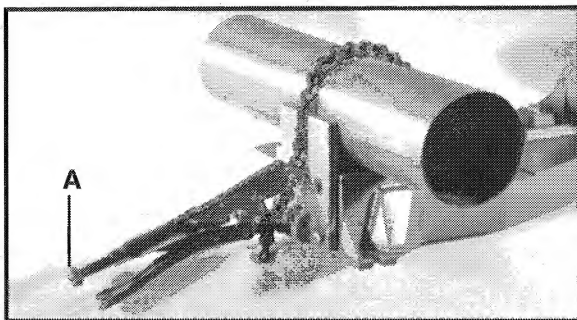

Fig. 11
3. Pass clamping chain over the work and through the notch in the stationary fence, as shown in Fig. 11.
6. Squeeze the top and bottom levers of the clamp together to lock material to be cut in place, as shown in Fig. 11.
NOTE: Clamping tension may be regulated by turning the adjusting screw (A) Fig. 11, protruding from the end of the top lever of the vise grip clamp.